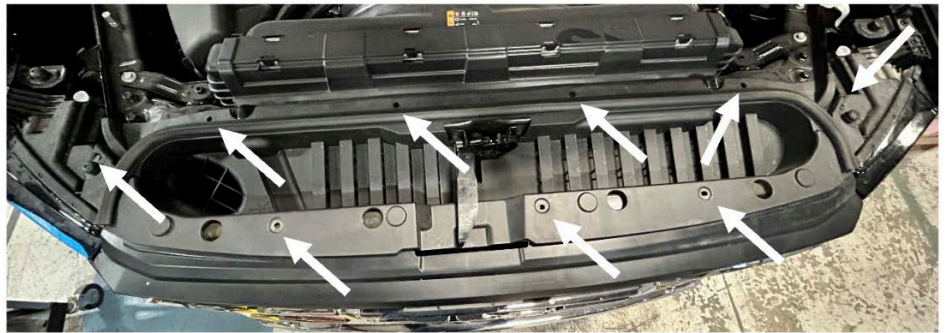

Figure 2
2. Using a body panel pry tool, remove the push pins from the under hood cowl to remove the cowl from the vehicle. Figure 2.